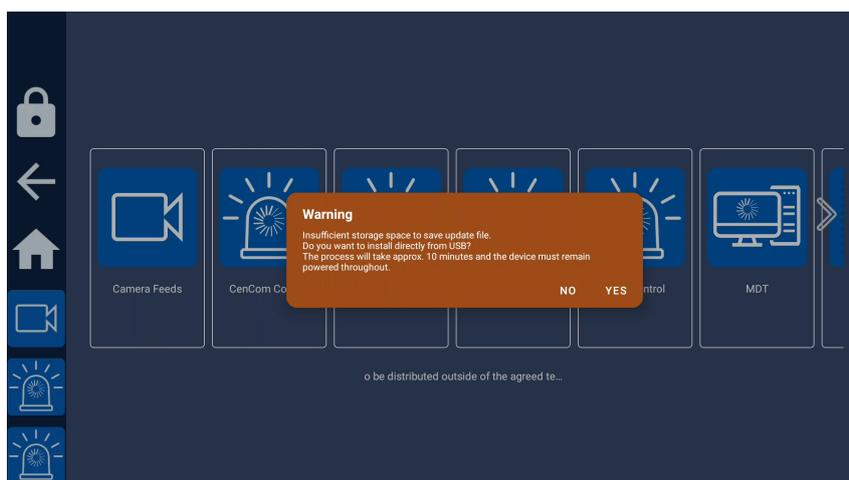
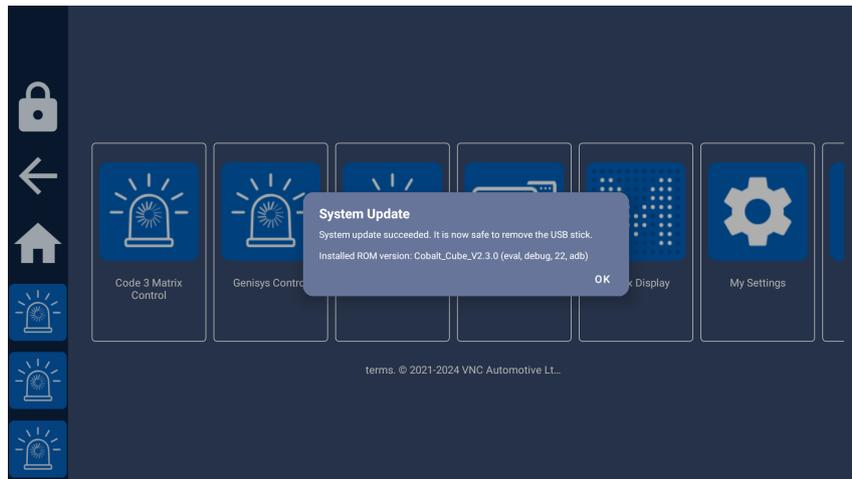

Figure 4: Not enough space warning
Figure 7: "Update successful" dialog
In some cases it will not be possible to save the update file to internal storage due to insufficient space being available. In these cases you will see a dialog as in Figure 4. In this case you **must not** remove the USB stick from the Cobalt Cube until the update process has completed and the Cobalt Cube display is visible on your vehicle screen again.
4. The Cobalt Cube will install the update, and automatically reboot in the process. This may take a few minutes - do not power off the Cobalt Cube until the process is completed. If installing directly from the USB stick (see Figure 4) do not remove this from the Cobalt Cube.
The Cobalt Cube will automatically display a dialog notifying of the successful update after it has been rebooted. If installing directly from the USB stick (see Figure 4) the user will be asked whether they want to delete the update file from the USB stick, to prevent the process from starting again (see Figure 7). If you do not remove the USB stick after the update the system may offer the update again.